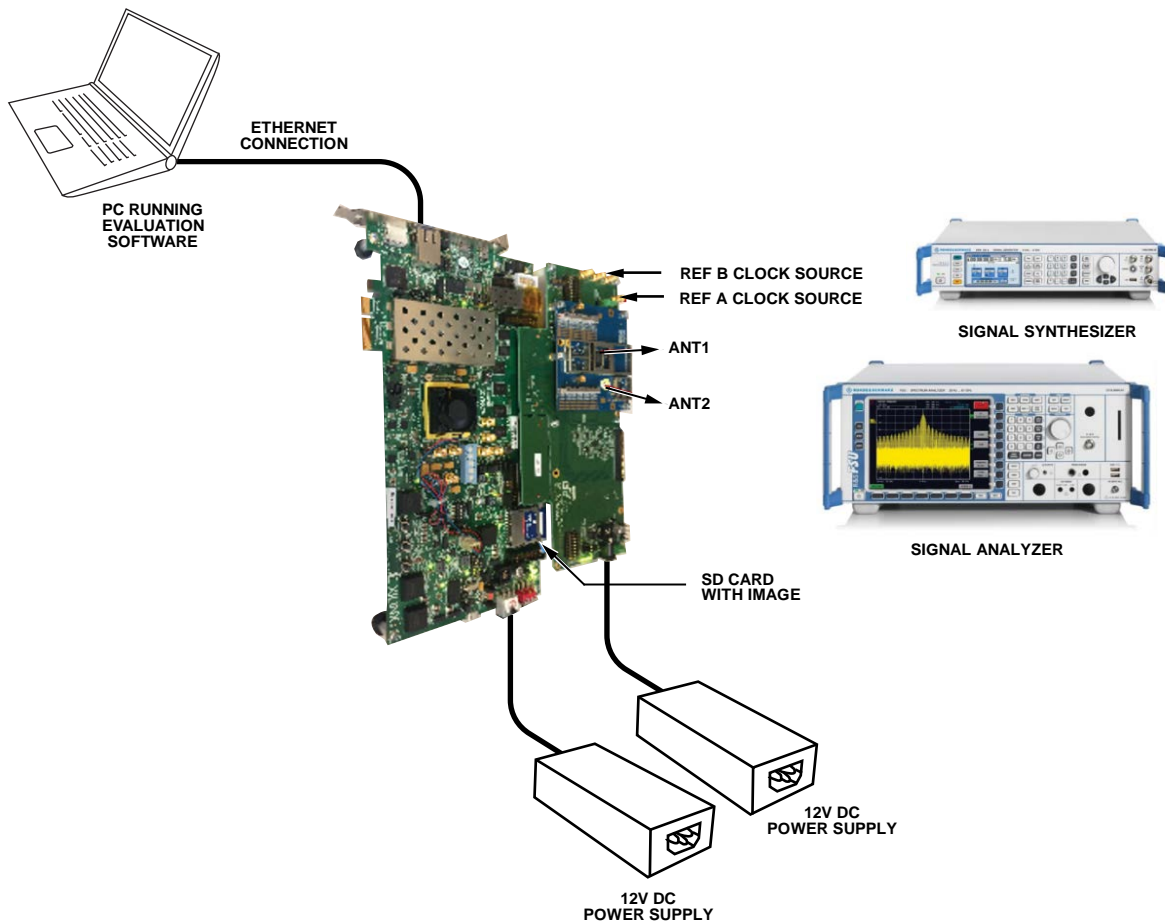

Figure 8. Hardware Connection Diagram
The hardware setup is shown in Figure 8. The Xilinx ZC706 Zynq evaluation board, shown in Figure 8 and Figure 9, is an older model of the EVAL-TPG-ZYNQ3, but the two boards are otherwise identical in terms of connections and compatibility.
3. Insert the secure digital (SD) card into the EVAL-TPG-ZYNQ3 and connect the interposer board to the connectors on the EVAL-TPG-ZYNQ3, and the radio board to the interposer board using the high pin count (HPC) FPGA mezzanine card (FMC) connectors, as shown in Figure 8. Ensure that the connectors are properly aligned.